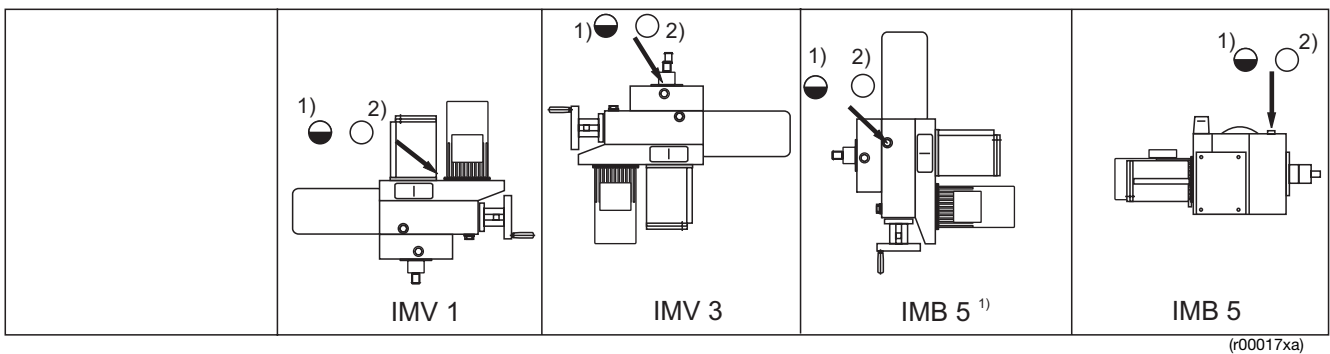
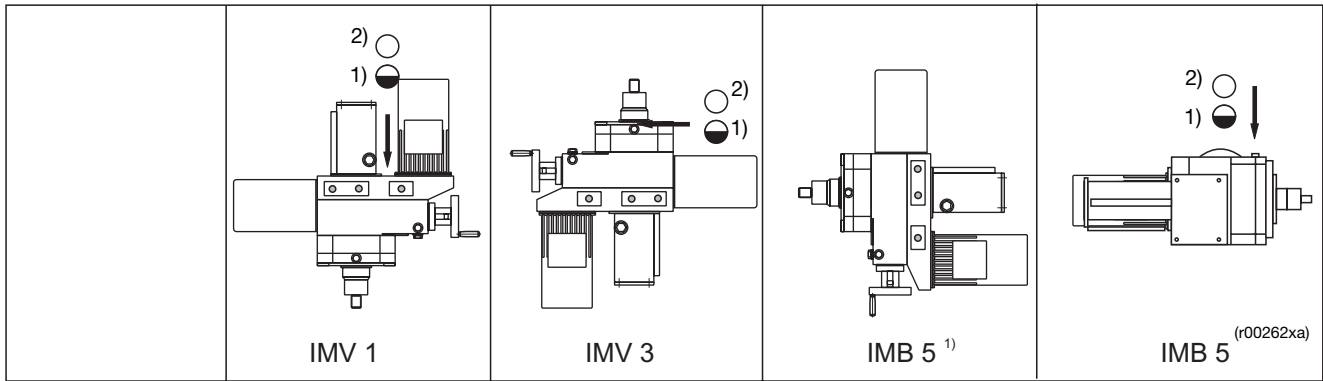

Fig. 2: oil level; 1) = inspection screw, 2) = venting screw
Fig. 5: oil level; 1) = inspection screw, 2) = venting screw
- Open or undo the venting screw (fig. 2 ... fig. 5).